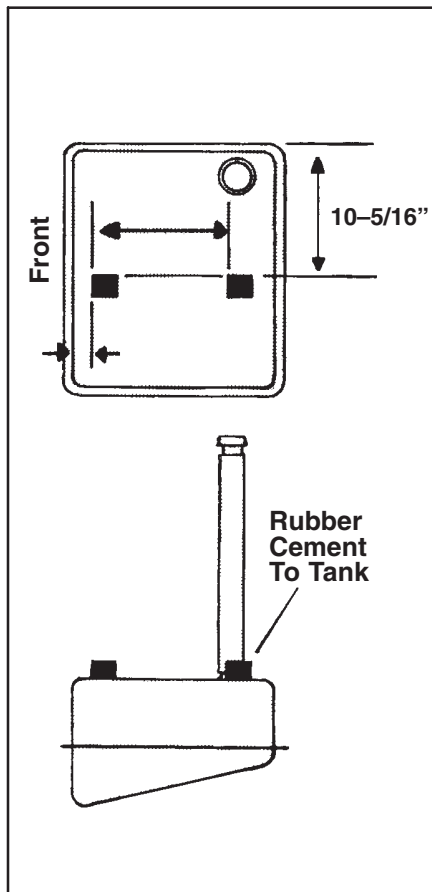

Fig. 107 Locating Rubber Bumpers on Tank
2. Position the new rubber parts according to Fig. 107. Cement them to the fuel tank with rubber cement. It is important that they be located exactly as shown to keep them from contacting the engine mounting bolts.